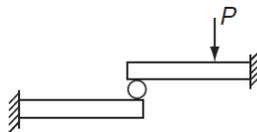

Figure 14 Question 28.
28. Two identical cantilever beams are supported as shown in Figure 14, with their free ends in contact through a rigid roller. After the load  $P$  is applied, the free ends will have